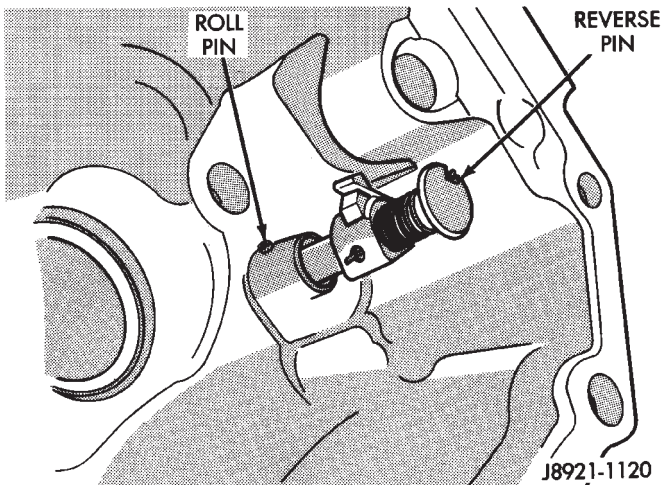

Fig. 116 Reverse Pin Position
(13) Inspect condition of reverse pin in adapter/extension housing (Fig. 116). If pin is worn or damaged, replace it as follows: